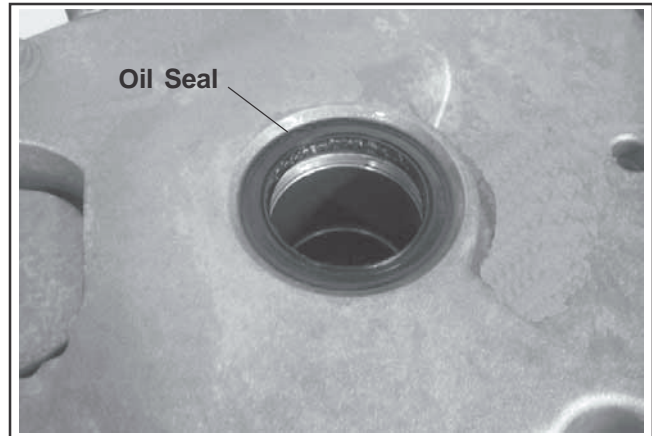
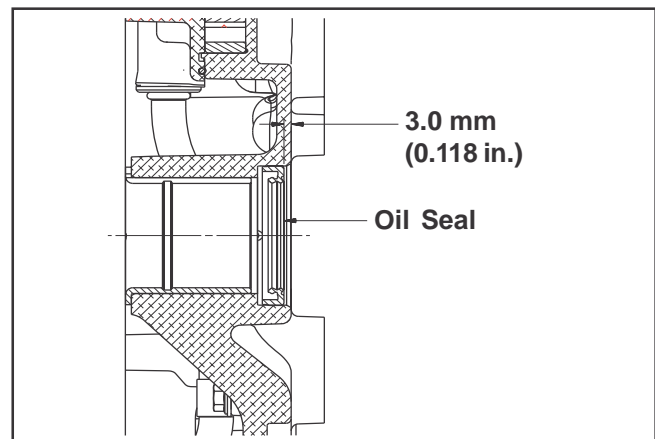

Figure 10-25. Installed Oil Seal in Closure Plate.
Figure 10-26. Oil Seal Depth in Closure Plate.
3. Install the oil seal into the closure plate using a seal driver. See Figure 10-25. Make sure the oil seal is installed straight and true in the bore to the depth shown in Figure 10-26.